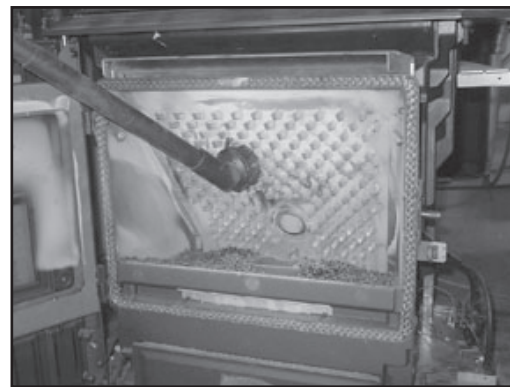

Figure 17.3
- Vacuum the ash from the heat exchanger with an upholstery brush to remove the majority of the ash. Be sure to vacuum the back of the baffle also. Inspect the drop tube and remove any residue build-up in the drop tube. **Figure 17.3**.